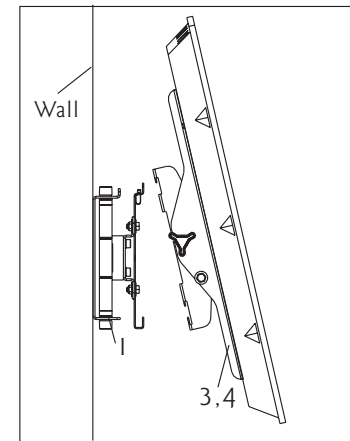
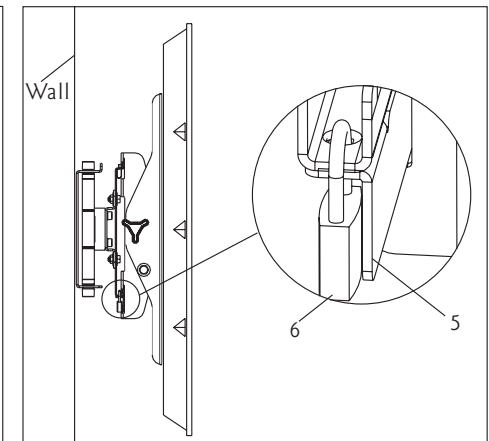

Fig 3a
Fig 3b
Firstly lift the bracket mounted display over the wall mount. And then hook the brackets over the top of the wall mount. Rotate the display let the bottom of the brackets hook over the bottom of wall mount, as shown in Fig.3a. Then use the Locking bar(5) to prevent the display from being removed or accidentally knocked off of the wall plate. For additional security, install small padlock(6) through the provided lock holes, as shown in Fig.3b.